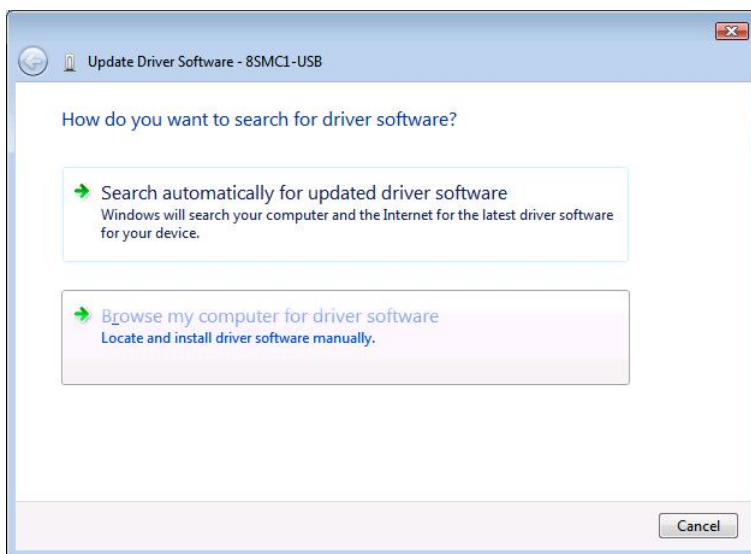

Figure 74. Browse my computer for driver software.
- At the next screen choose "Browse my computer for driver software" (see Figure 74).